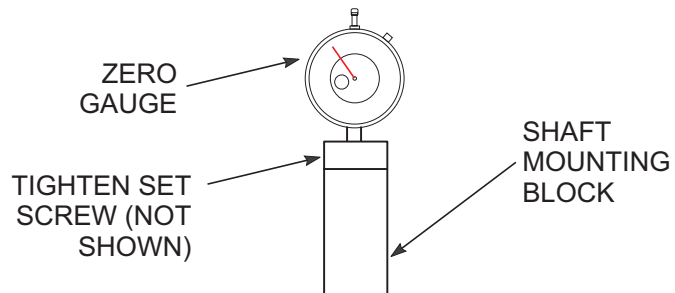

Figure 3-10. Dial Gauge Micrometer Assembly.
1. Connect the dial gauge micrometer to the Shaft mounting block as shown in Figure 3-10.